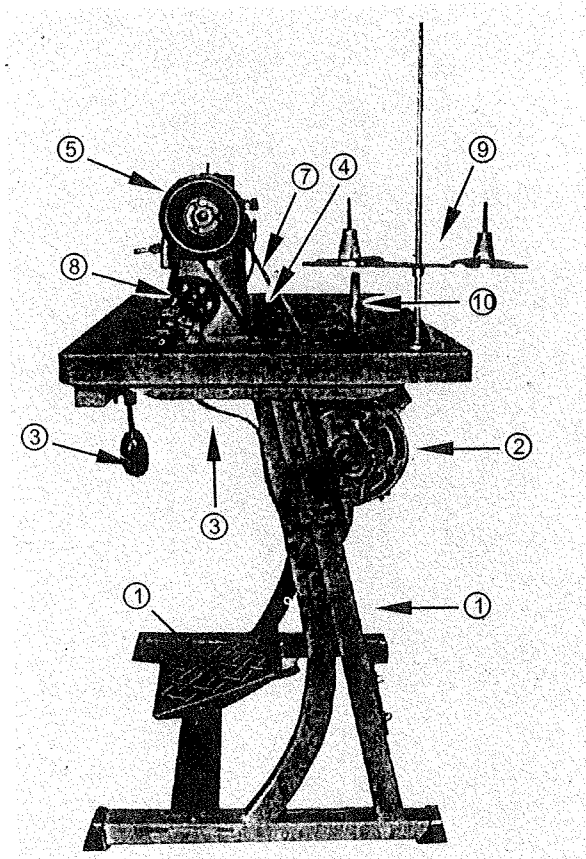

Fig.1
SETTING UP THE MACHINE (Fig. 1)
1. Push a bobbin on the bobbin winder spindle ③ as far as it will go.
2. Pass the thread from the thread stand downward through the eye ① in the tension bracket, then between and around the back of the tension disc ②.
4. Push the lecer ④ toward the other side so that the pulley and V belt (⑦ Fig. 1) will engage and then start the machine.